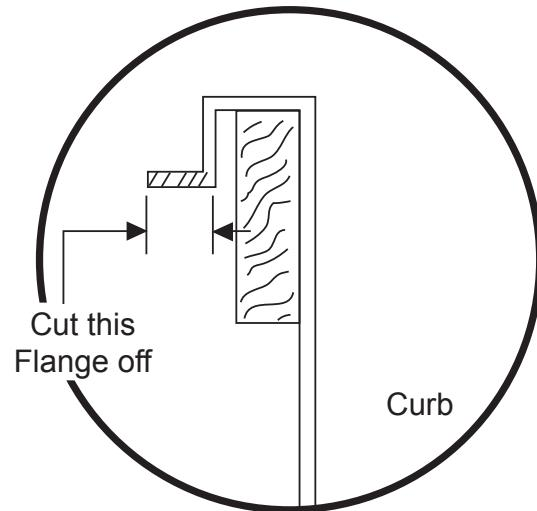

FIG. 1 - Flange Removal
1. With a sawzall or other type of cutting device, cut the horizontal angle off the CPRFCURB006A00 or CPRFCURB007A00, roof curb. See Fig. 1 and 2. Use care not to damage roofing materials when cutting.